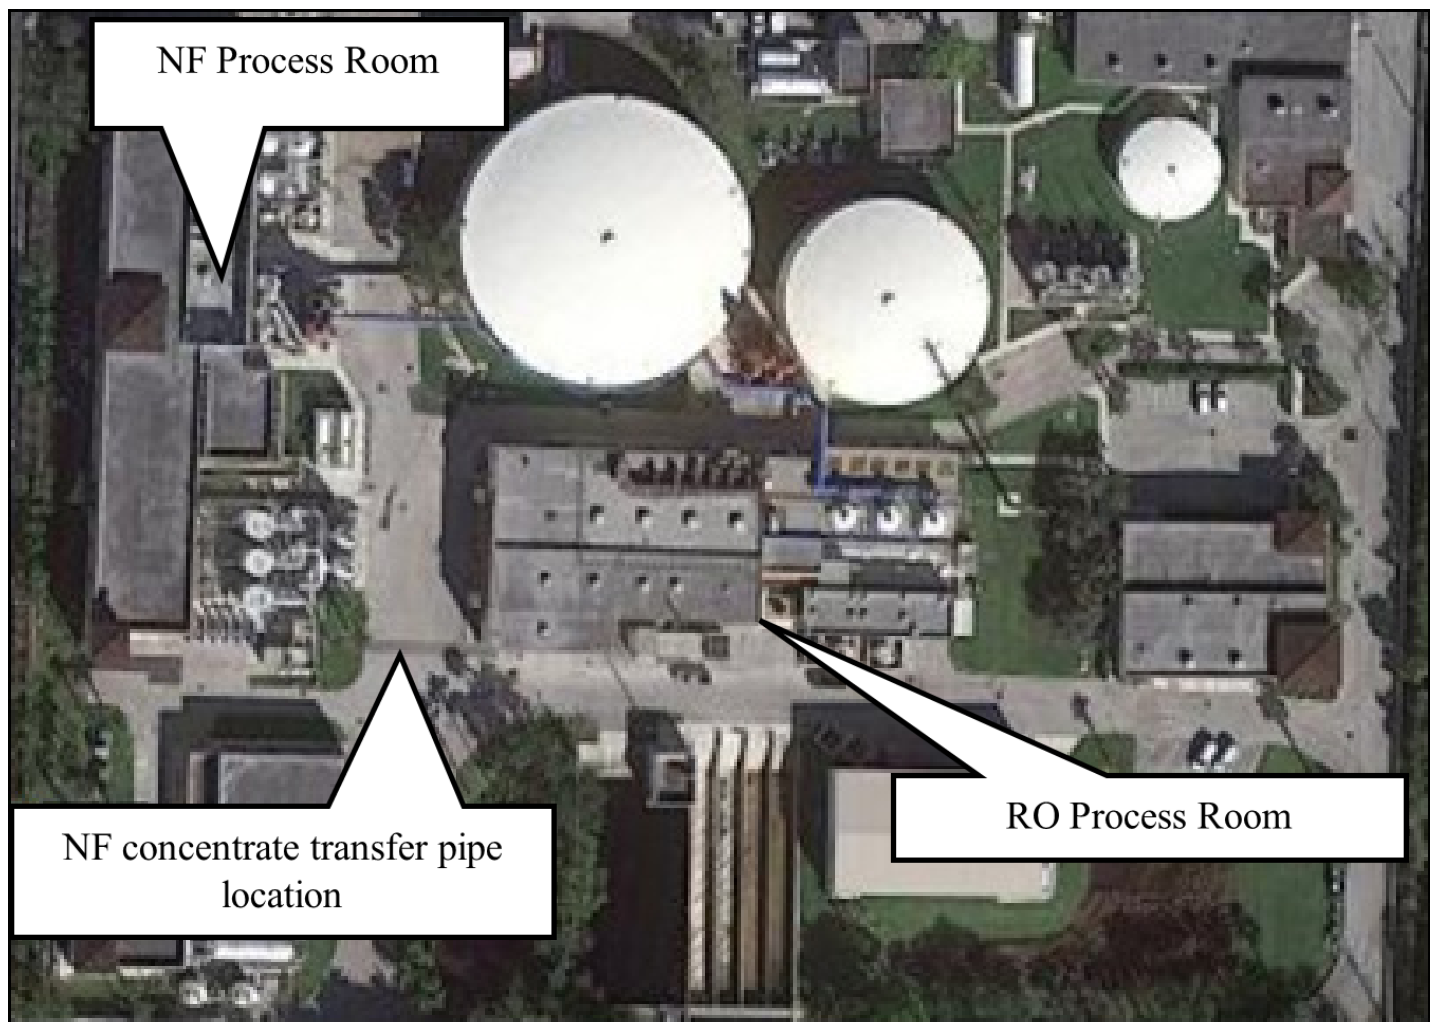

Figure 1: Aerial Photograph of the Town of Jupiter's Campus.
The Town of Jupiter, Jupiter, FL (Town) owns and operates a 13.7 million gallon per day (MGD) reverse osmosis (RO) process and a 14.5 MGD nanofiltration (NF) process. Figure 1 displays the location of the NF and RO processes at the Town's drinking water campus. The NF process treats surficial groundwater that contains a lower concentration of total dissolved solids (TDS) relative to the brackish groundwater (BGW) feed used for the RO process. Moreover, the BGW RO feed has observed an increase in salinity and TDS over time. The Town and their consultants, Kimley-Horn and Associates (West Palm Beach, FL), tasked the University of Central Florida (UCF) with investigating the feasibility of introducing NF concentrate to the feedwater upstream of a RO pilot in order to supplement the BGW supply. The purpose of this article is to provide an overview of the RO pilot study that investigated the treatment of a feedwater containing a blend of BGW and NF concentrate. A more detailed account of this research project was published by Hagglund and Duranceau during the summer of 2024 [1].